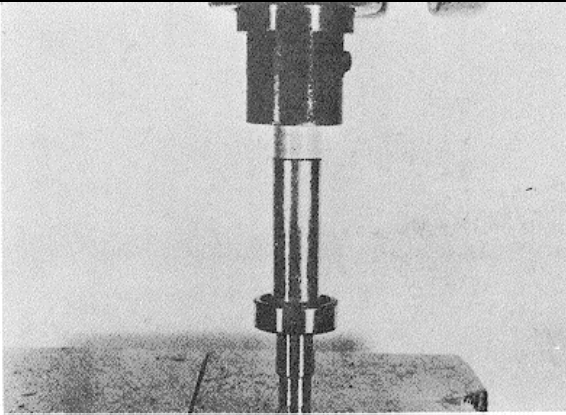

Fig. 5-53, F541. Pressing drive bearing on shaft
1. If bearing or shaft is replaced, lubricate shaft with high pressure lubricant and press bearing over shaft, pressing against inner race of bearing. Fig. 5-53.